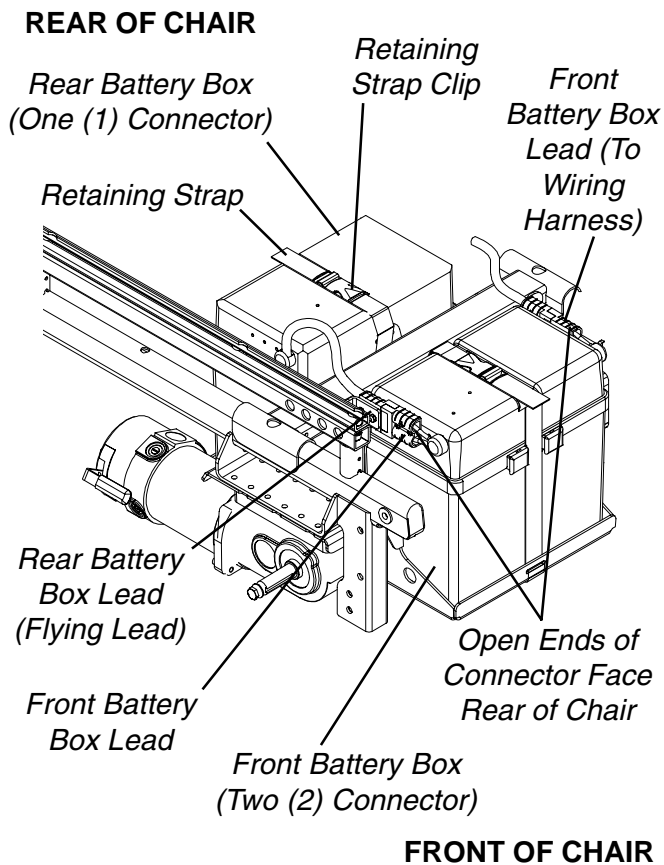

FIGURE 9 - INSTALLING/REMOVING BATTERY BOXES
**INSTALLING/REMOVING BATTERY BOXES (FIGURE 9)**